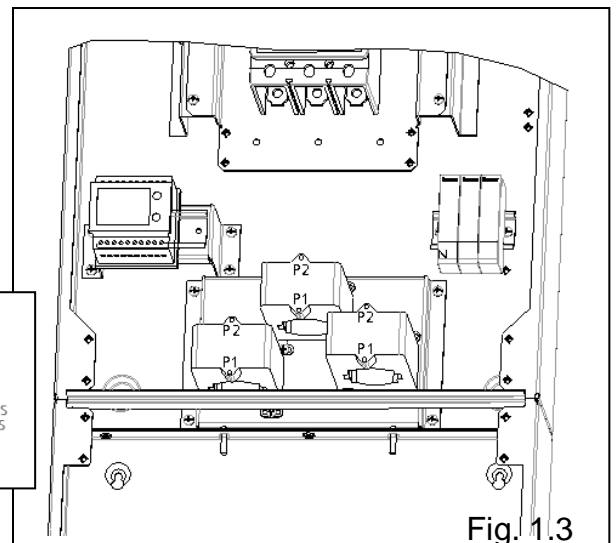

Fig. 1.3
- Screw fix CT baseplate, meter baseplate and fuse DIN rail to distribution board as shown in Fig 1.3.
- Observe correct primary polarity of CTs (P1 –Supply to CT, P2 Load from CT) – see Fig 1.3
- Connect supplied cable looms as shown in Fig 1.3 (Diagram shows loom references).